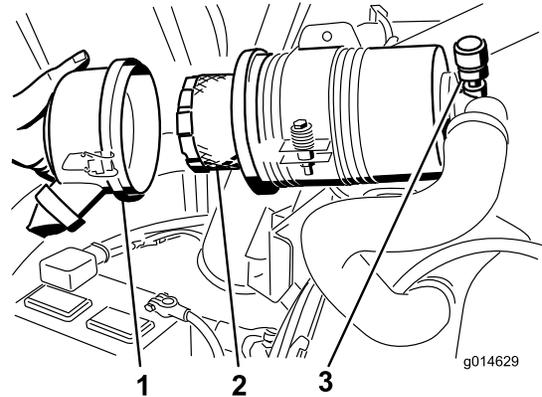

Figure 47
3. Remove and replace the filter (Figure 47).